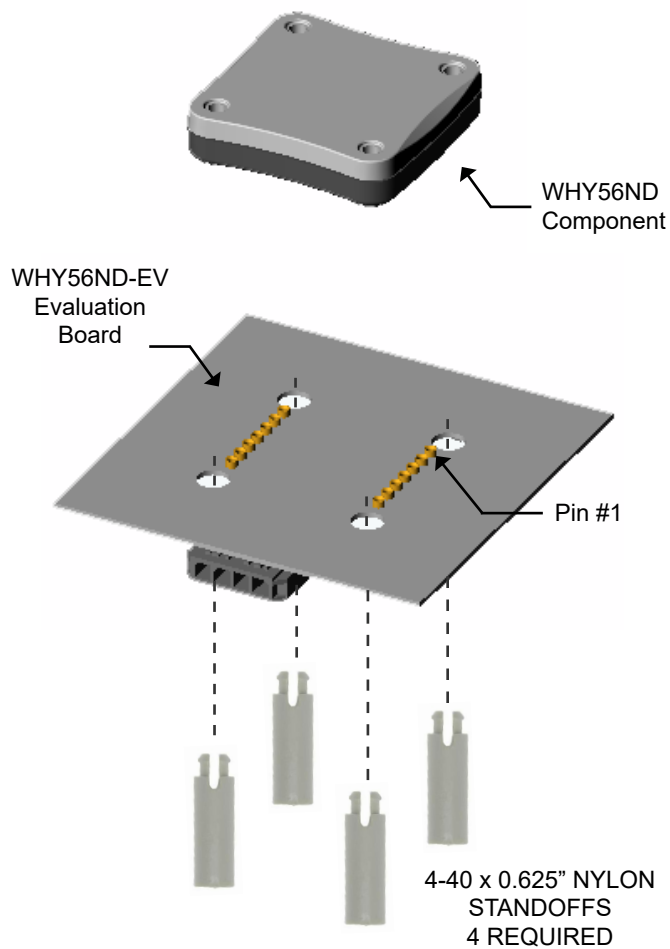

Figure 15. WHY56ND and WHY56ND-EV Assembly
- Attach the snap-in standoffs (**Figure 15**).
WHY56ND and WHY56ND-EV assembly instructions (Figure 15)